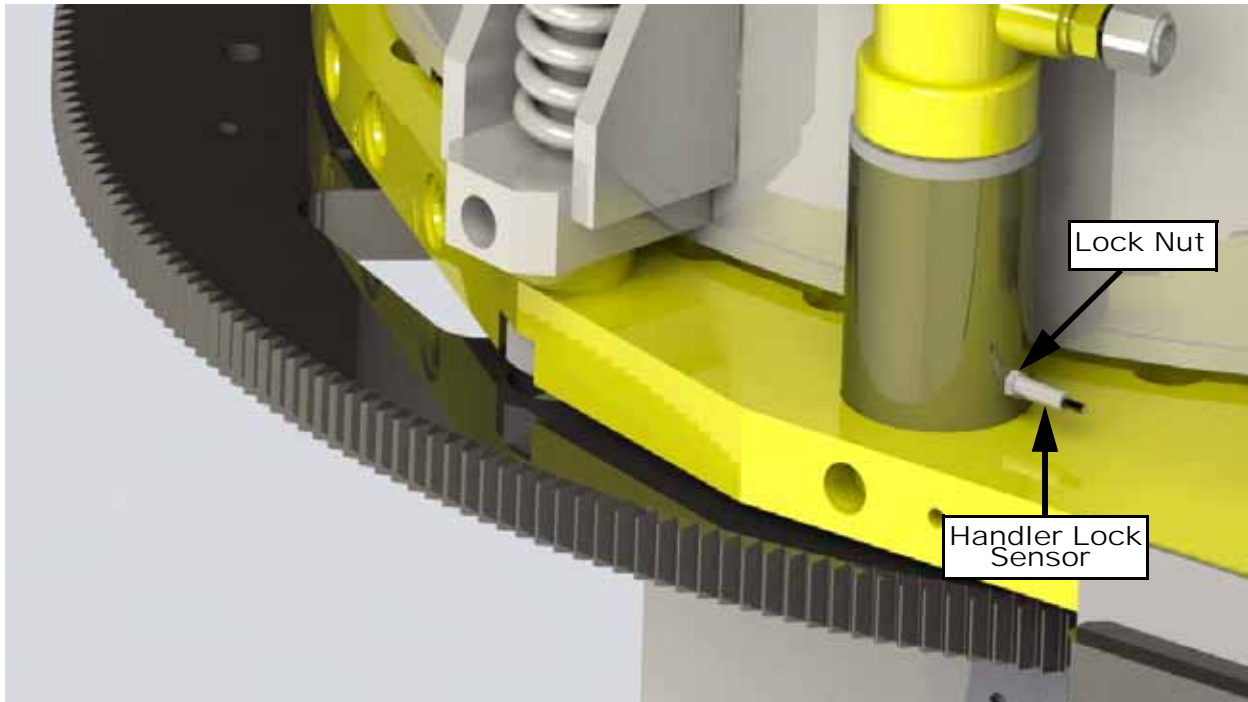

Figure 2: Loosen Lock Nut on Handler Lock Sensor.
2. Loosen the lock nut on the handler lock sensor (see Figure 2).